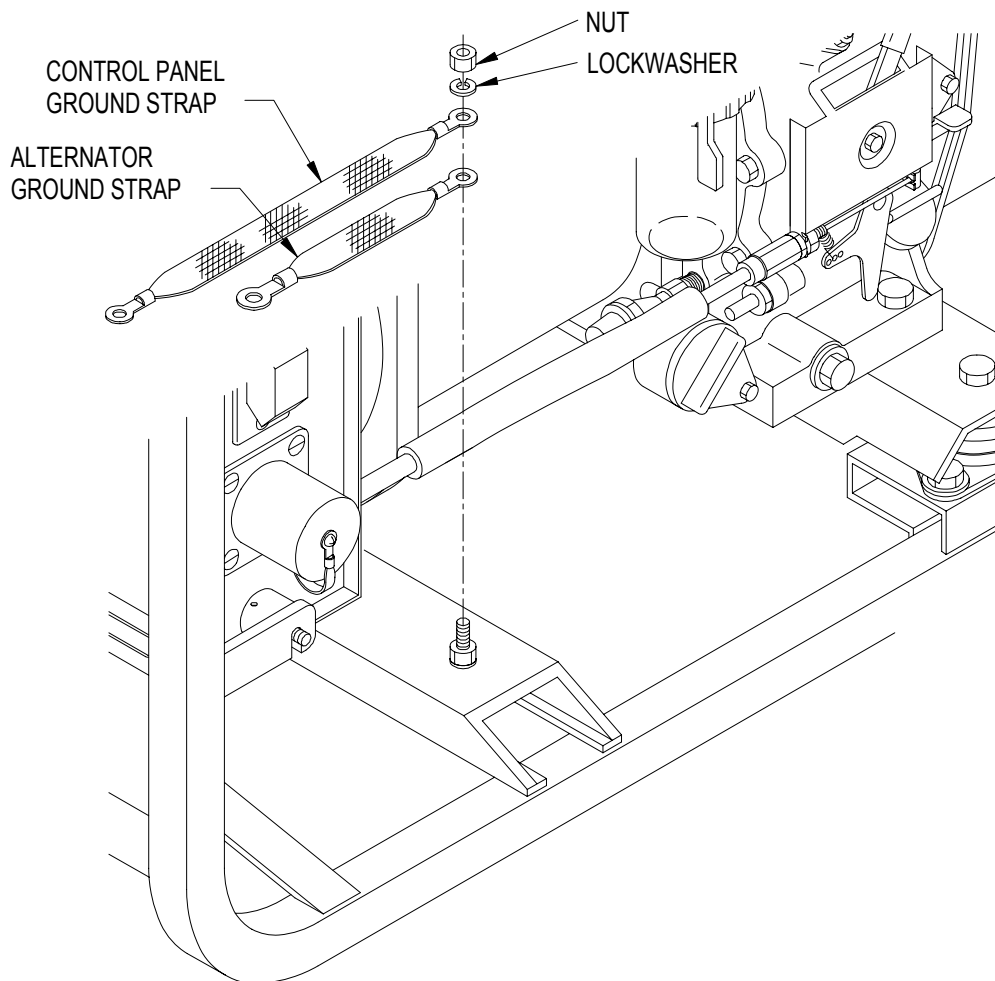

Figure 4-32. Ground Strap(s)
- (1) Remove nuts, lockwashers, washers, and capscrews as applicable securing ground strap (Figure 4-32) at both ends.
- (2) Remove ground strap.
- (1) Position ground strap (Figure 4-32).
- (2) Secure ground strap at both ends with nuts, lockwashers, washers, and capscrews as applicable. Torque nut to 75 lb-in. (8.5 Nm).